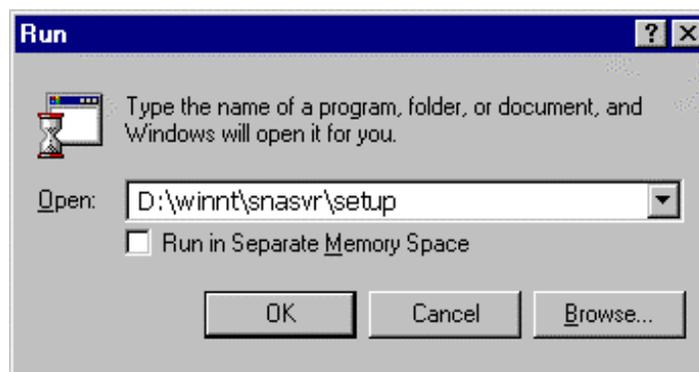

Figure 8-1. Starting Setup to Install a Data Link Service
1. Begin by pressing the **START** button on the Windows NT Server console. Select **Run**. Assuming your CD-ROM is the **d** drive, type **d:\winnt\snasvr\setup** and press **OK**. (Figure 8-1).